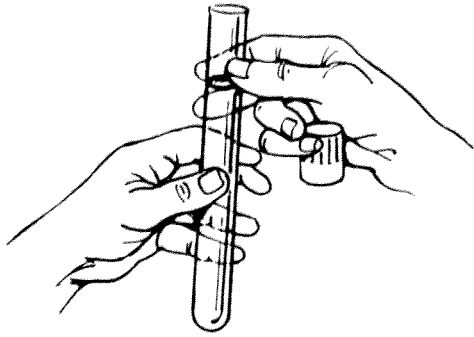

FIGURE 9-3
4. Transfer the tube from your left to your right hand, as in Figure 9-3.